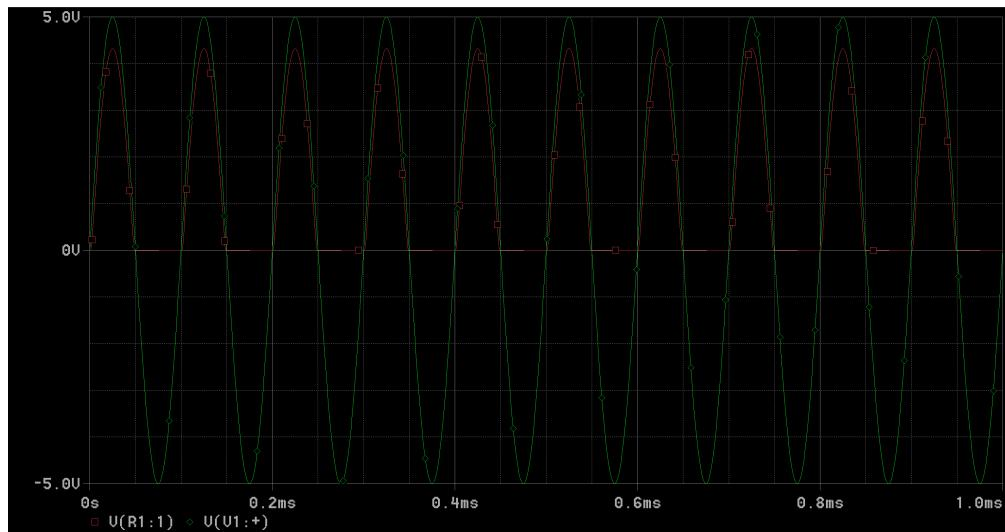
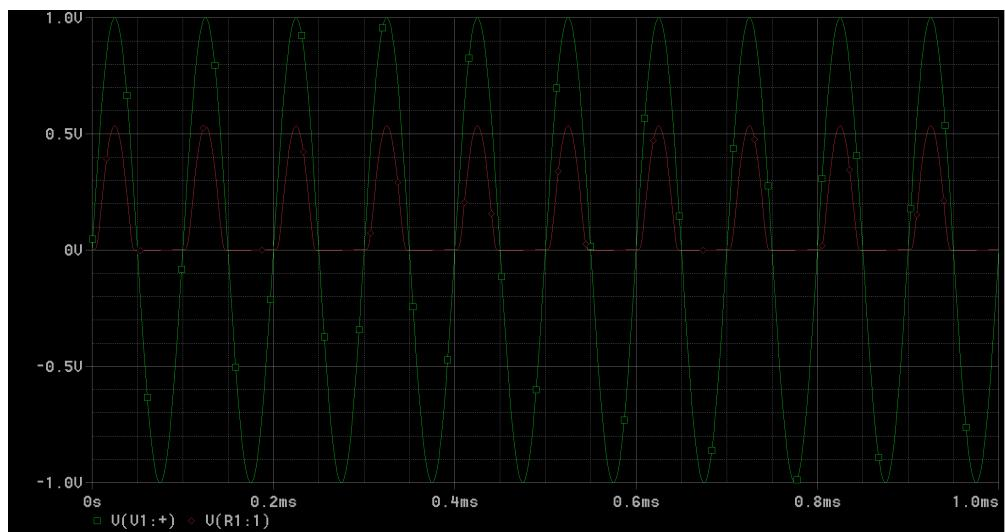

Figure 9:  $V_{AE}$  to 10 Volt P-P by Pspice
Figure 10:  $V_{AE}$  to 2 Volt P-P by Pspice
- i. For Pspice simulation, two results have shown in Figure 9 and Figure 10. By scanning analog data, when  $V_{AE}$  equals to 10 volt, the voltage in semiconductor diode 1N4148 is 0.67 volt. When  $V_{AE}$  equals to 2 volt, the voltage in semiconductor diode 1N4148 is 0.46 volt.